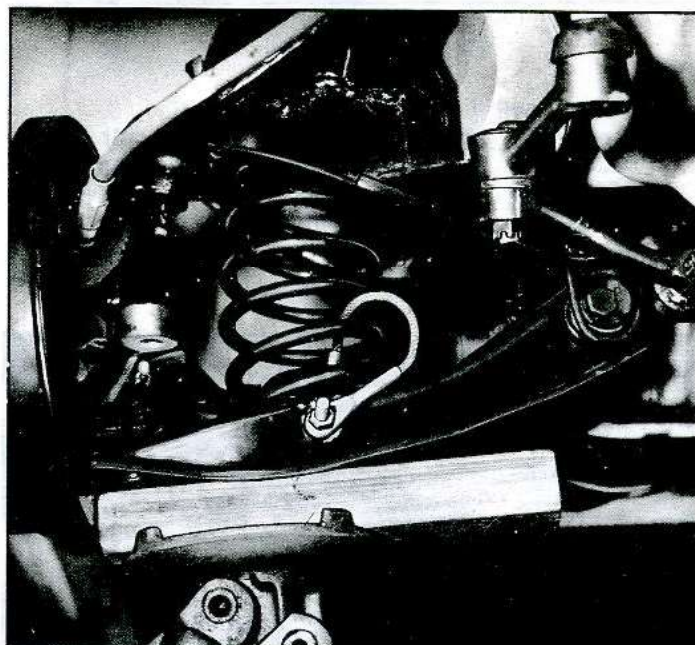

Fig. 3-15—Tool J-4988 Installed
3. Loop Cable J-4988, or suitable chain, up around the third spring coil and, using a 1/2" nut and bolt, attach the cable through one of the shock absorber lower bolt holes (fig. 3-15).